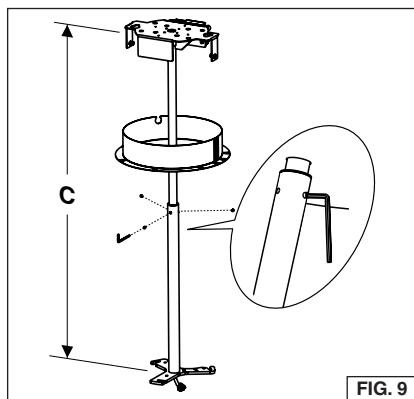

FIG. 9
4. Install and tighten (3) set screws with hex key provided in parts bag. Fig.9